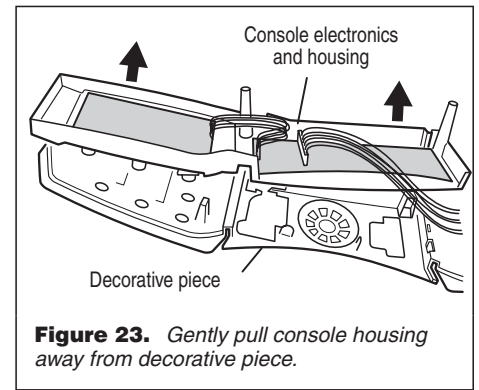

Figure 23. Gently pull console housing away from decorative piece.
5. Gently pull the console electronics housing away from the decorative piece. See figure 23.